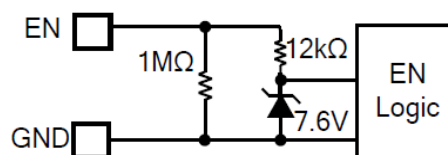

Figure 2: Zener Diode between EN and GND
The MPQ4475M has an enable control pin (EN). Pulling EN high enables the IC; pulling EN low disables the IC. Connect EN to V_{IN} through a resistor for automatic start-up. An internal 1M Ω resistor from EN to GND allows EN to float to shut down the IC. EN is clamped internally using a 7.6V series Zener diode (see Figure 2).